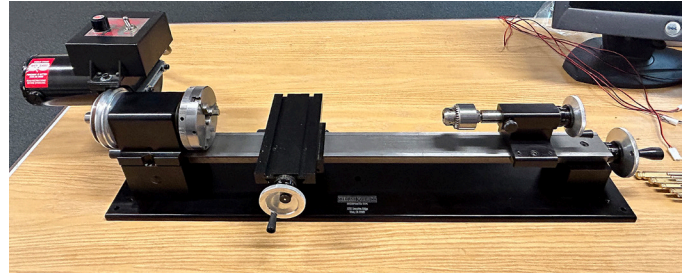

FIGURE 12—The completed base conversion.
12. Turn the entire machine assembly over. Plug it in, and start making chips (see Figure 12).